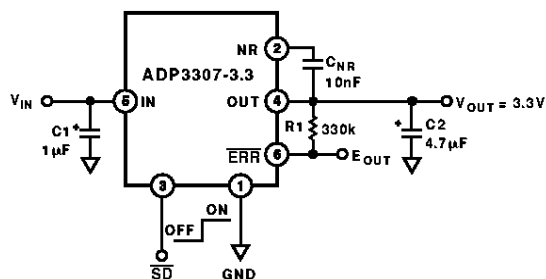

Figure 21. Noise Reduction Circuit
A noise reduction capacitor ( $C_{NR}$ ) can be used to further reduce the noise by 6 dB–10 dB (Figure 21). Low leakage capacitors in 10 nF–100 nF range provide the best performance. As the noise reduction capacitor increases the high frequency loop-gain of the regulator, the circuit requires a larger output capacitor if it is used. The recommended value is 4.7  $\mu\text{F}$ , as shown in Figure 21. Since the noise reduction pin (NR) is internally connected to a high impedance node, any connection to this node should be carefully done to avoid noise pick up from external sources. The pad connected to this pin should be as small as possible. Long PC board traces are not recommended.